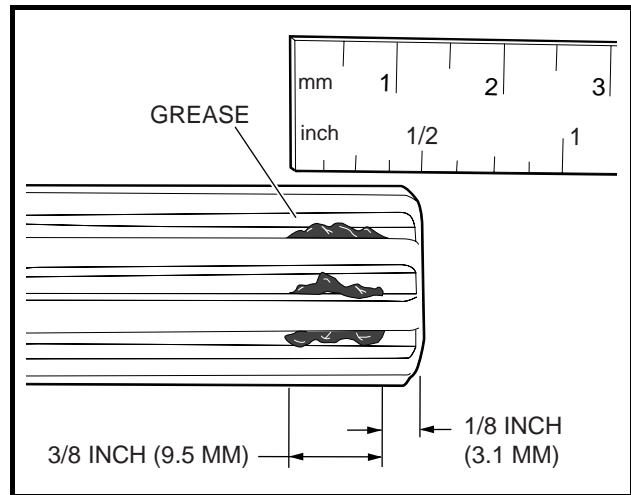

Figure 15b-21 Application of grease to Input Shaft Grooves
- 2.6. Check the chamfer and end of the input shaft to ensure these areas are completely clean of grease as shown (**Figure 15b-22, Page 15b-14**).